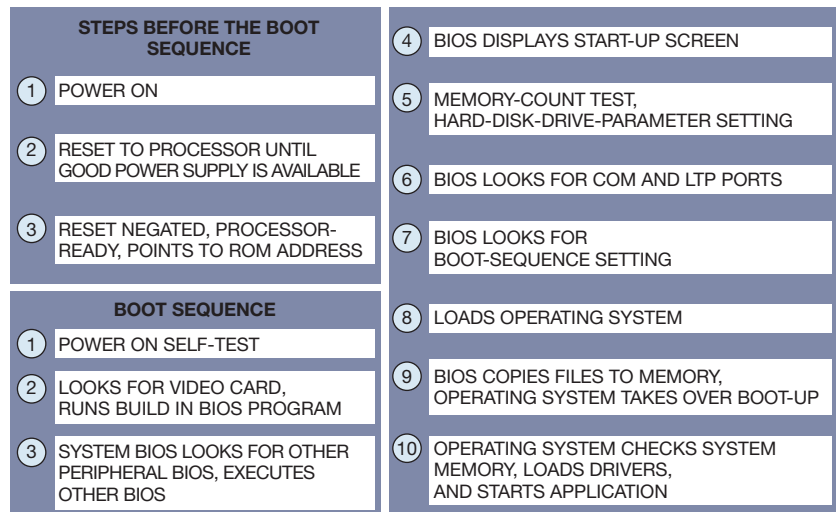

Figure 1 Microsoft’s Windows XP moves through a suite of steps as it boots a system.
**Figure 1** illustrates the first few terms of the harmonic series. The first waveform is a simple sine wave at the fundamental frequency. The next waveform shows the fundamental plus its third harmonic, the next takes harmonics to the fifth, and so on. The more terms you add, the more “suarish” the waveform becomes, but it still looks wiggly.
the amplitudes that the harmonic-sum model uses. The Fourier theory applies only to an infinite sum, which never occurs in practice. If you have a finite number of sine-wave components, why not try other amplitudes different from the ideal infinite-sum values? Instead of chopping off the infinite sum after the seventh harmonic, with subsequent amplitudes dropping abruptly to zero, the right side of **Figure 1** smoothly tapers the harmonic amplitudes so that, by the time you get to the last one, its amplitude is small. That fact mitigates the discon-
**Figure 1** Additional harmonics sharpen rising and falling edges but do not improve the worst-case ripples. In contrast, feathering the harmonic amplitudes improves the ripple amplitude, but at the expense of some loss in edge sharpness.
A simple x86 boot sequence is fairly self-explanatory (Figure 1). Windows XP follows comparable steps, albeit